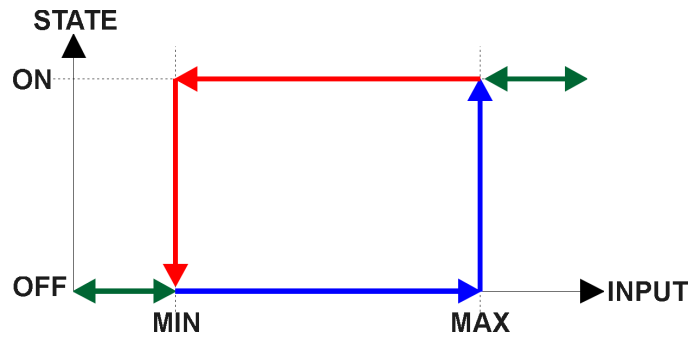

Figure 5 – Analog Input Read as Digital
There is another type of 'digital' input that can be selected when 6112h is set to 20 = Analog On/Off. However, in this case, the input is still configured as an analog input, and therefore the objects from the Analog Input (DI) block are applied instead of those discussed above. Here, objects 2020h, 2030h and 6030h are ignored, and 6000h is written as per the logic shown in Figure 5. In this case, the MIN parameter is set by object 7120h **DI Scaling 1 FV**, and the MAX is set by 7122h **DI Scaling 2 FV**.